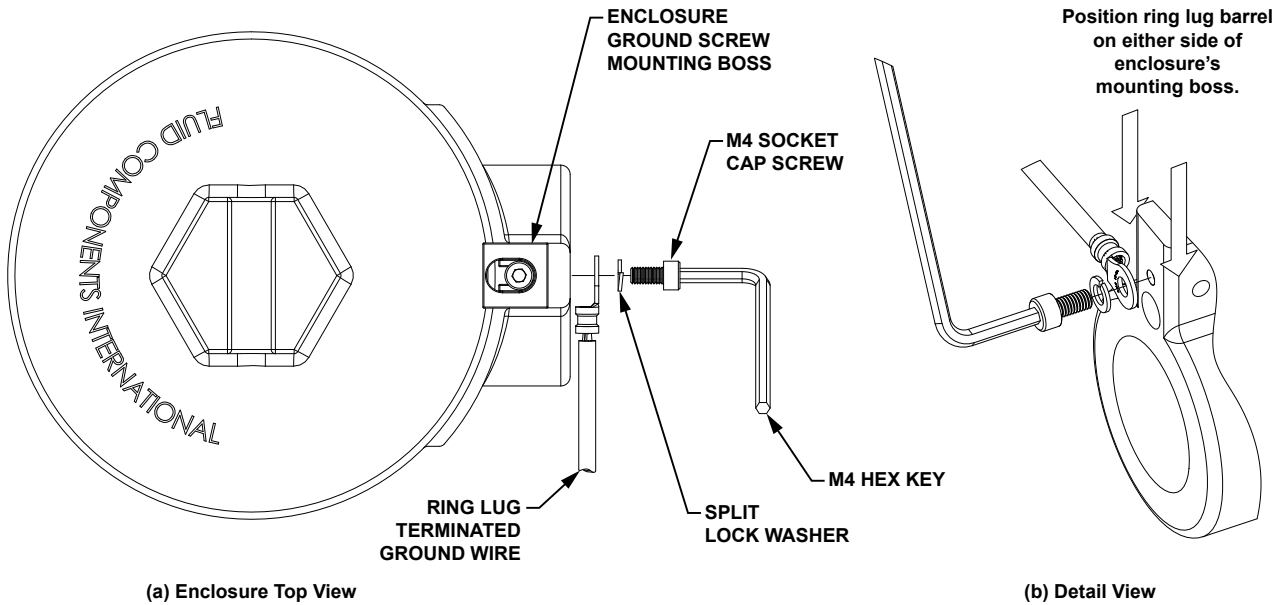

Figure 2-7 Installing Ring Lug Terminated Ground Wire
6. Install ground wire ring lug with end of lug barrel touching the side of the enclosure’s mounting boss as shown in Figure 2-7. Place the ring lug on either side of the mounting boss as needed for the installation. Install with the hardware in this order: socket cap screw, split lock washer, ring lug. Torque cap screw to 23 in-lb (2.6 N-m).